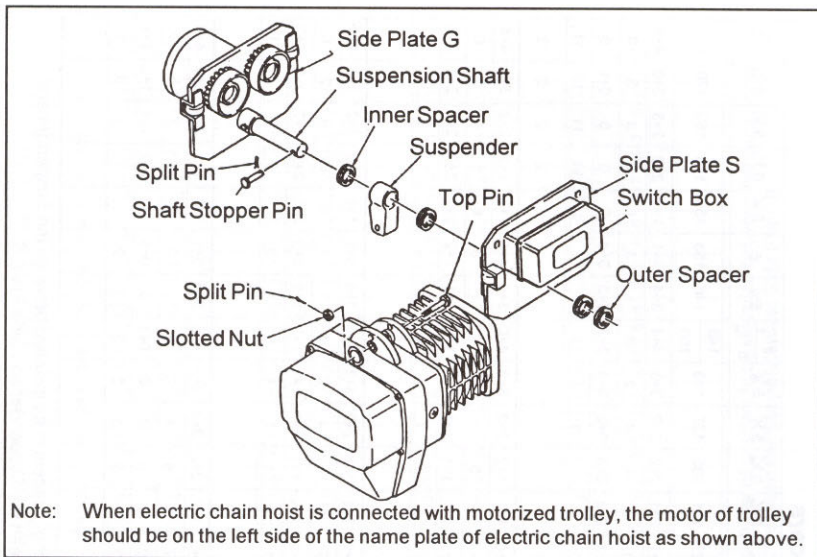
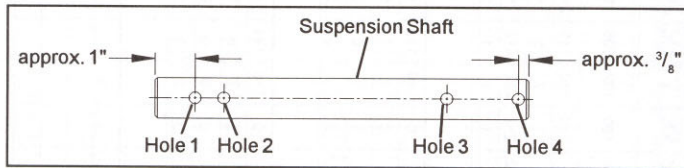

Fig. 2-8
Fig. 2-9
Beginning with an assembled trolley, refer to Fig. 2-8 and remove the Shaft Stopper Pin, Side Plate S, Suspender and Spacers from the Suspension Shaft. Referring to Fig. 2-8 and Table 2-4, install the Inner Adjusting Spacers and the Suspender on the Suspension Shaft. Insert the Suspension Shaft in Side Plate S and put the Outer Spacers to the outside. Use all of the spacers provided with the trolley. If the beam width is not listed in Table 2-4, use the next size smaller and make adjustments in accordance with the following paragraph "Adjustment" and Fig. 2-9. Insert the Shaft Stopper Pin in the Suspension Shaft and also insert the Split Pin in the Shaft Stopper Pin. For wide beams that are beyond the standard adjustment range of the trolley, the trolley must be set up for an extended range. Trolleys requiring extended range setup are provided with Fixing Spacers, which are special spacers that are even thicker (wider) than the Thick Spacer.
The Suspension Shaft has four (4) holes. To assemble the trolley correctly ensure that these holes are used properly per Fig. 2-9 and Table 2-3.
Flange Range	Hole Usage (Refer to Fig. 2-9)
- Move the Shaft Stopper Pin to Hole 4 (see Fig. 2-9).
- Remove the Shaft Stopper Pin from Hole 4 and re-install in Hole 2 (or Hole 3 - see Fig. 2-9 and Table 2-3). Never use trolley with Shaft Stopper Pin in Hole 4.
- Mount hoist to the Trolley Suspender using Top Pin, Nut, and Split Pin. Make sure the hoist-to-trolley orientation is per Fig. 2-8.